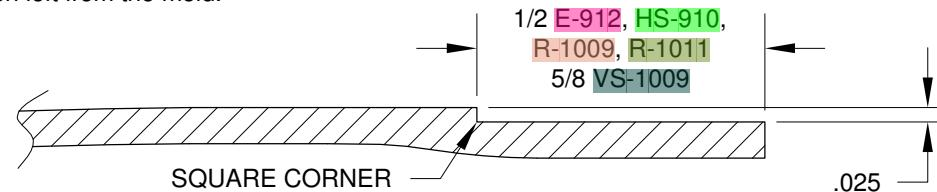

FIGURE 1: CROSS SECTION OF A TYPICAL TIP FAIRING MOLDED FLANGE
Step 1: Ensure that the molded recess on all the tip fairings is square as shown in Figure 1. Use a razor blade or file to remove any material that may have been left from the mold.
Step 2: Trim the aft edge of the flange on the E-912 Elevator Tip Fairing as shown in Figure 2 to remove interference between the flange and the E-1023 Elevator Trailing Edge and allow the tip to be fully inserted into the end of the elevator. Trimming the width of the molded flange may also be required. See Figure 1 for the correct width.